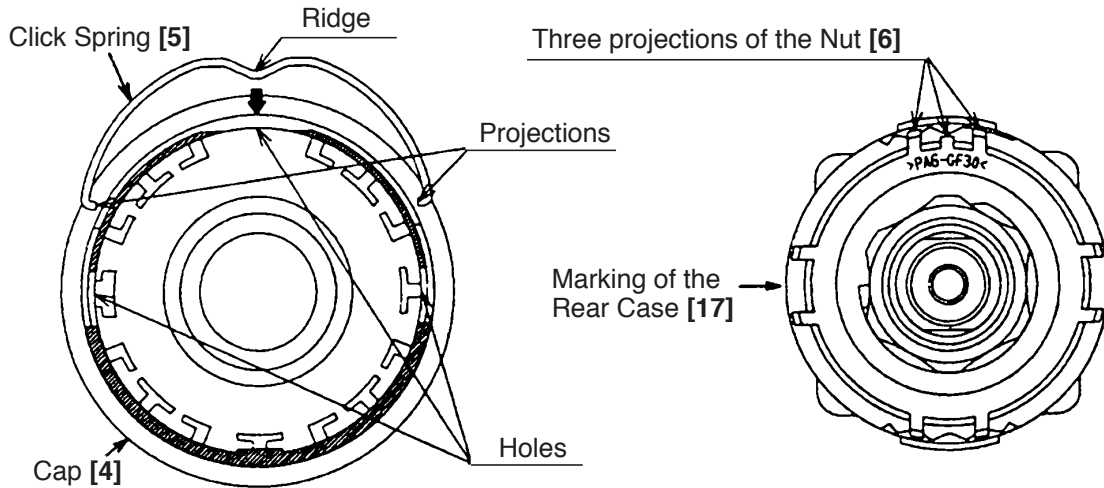

Fig. 15
- (c) Install the Click Spring [5] and the Cap [4] to the assembly reassembled in step (b). (See Fig. 15.)
- (ii) When the Nut [6] is screwed in the Front Case [9] about one and a quarter turns, the three projections of the Nut [6] and the marking of the Rear Case [17] are positioned as shown in Fig. 15. Mount the Cap [4] aligning the ridge of the Click Spring [5] with the three projections of the Nut [6].